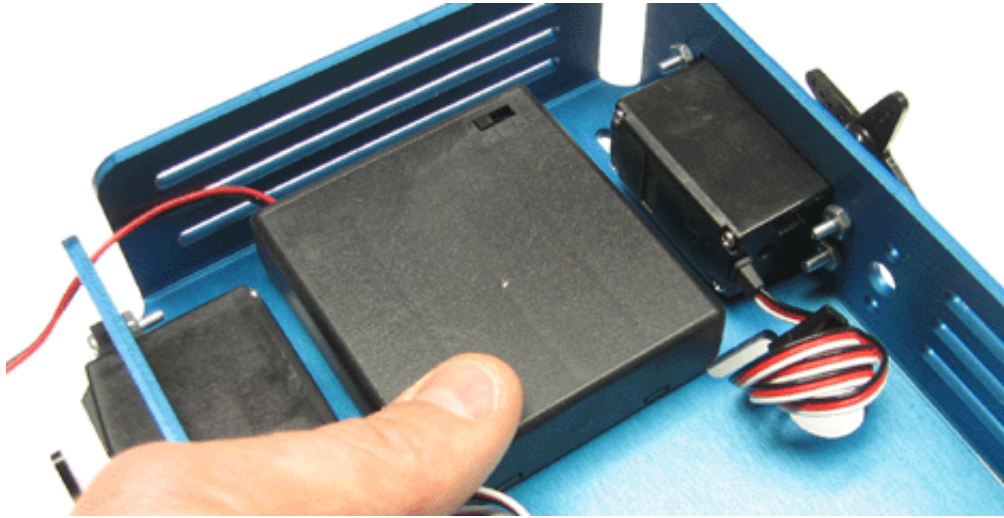

Figure 8. Mounting the battery pack.
- 4. Peel the remaining backing from the velcro strips, and press the battery pack onto the underside of the robot chassis, as shown in Figure 8. Be careful to orient the battery pack so that the red and black leads can reach your power connection on the breadboard.**